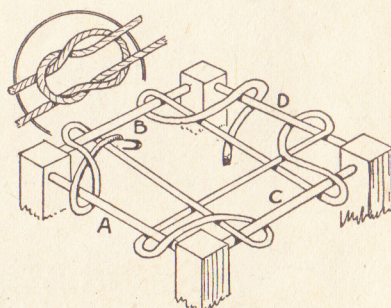

Fig. 3—How to weave
In the diagram, Fig. 3, is shown exactly how to start and how the interlacing of each strand is made. In the end of the seagrass first make a knot and then, putting in a small staple, fix the seagrass to one of the rails as shown. Now carry the seagrass over rod (A) and under it and over and under (B) to (C).
When it is necessary to make a join in the seagrass, the knot should be made underneath and, therefore, out of sight. For sake of strength make the well-known reef-knot, shown as an enlarged diagram in Fig. 3.